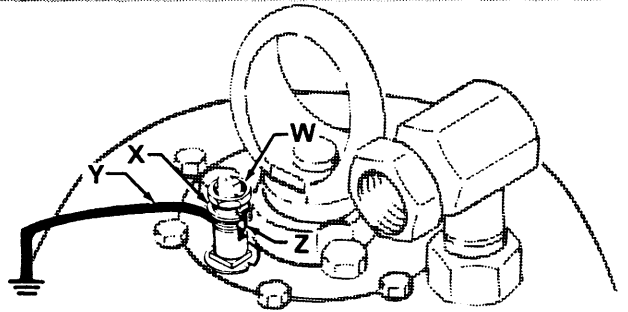

Fig 1
1. *Pump*: use a ground wire and clamp as shown in Fig 1.
To ground the pump, loosen the grounding lug locknut (W) and washer (X). Insert one end of a 12 ga (1.5 mm²) minimum ground wire (Y) into the slot in lug (Z) and tighten locknut securely. See Fig 1. Connect the other end of the wire to a true earth ground. Refer to page 10 to order a ground wire and clamp.